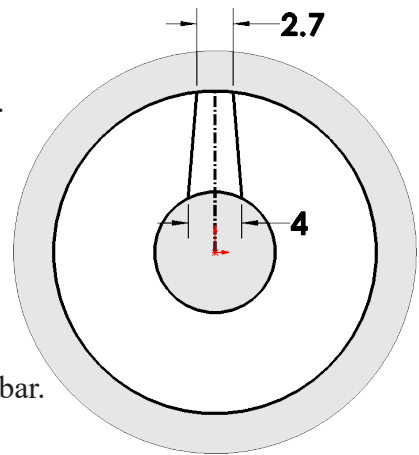

Fig. 12
Step 13. Click **Smart Dimension**  (S) on the Sketch toolbar.
Step 14. Add dimensions, **Fig. 12**.